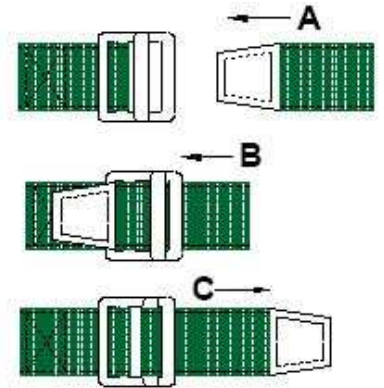

Fig. 4
- 5) Weave the billet end of the boom strap through the friction buckle as shown in the 3 steps of Fig. 4.